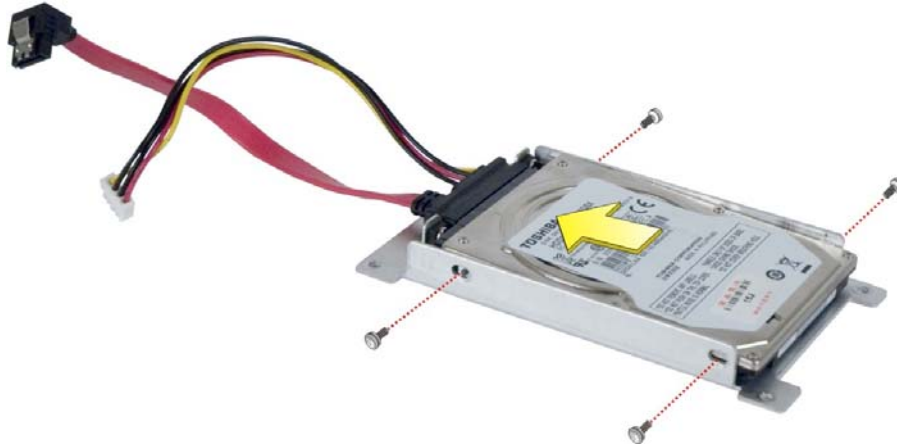

Figure 3-5: HDD Retention Screws
Step 4: Secure the hard drive to the bracket. Secure the hard drive to the bracket with four retention screws (Figure 3-5).